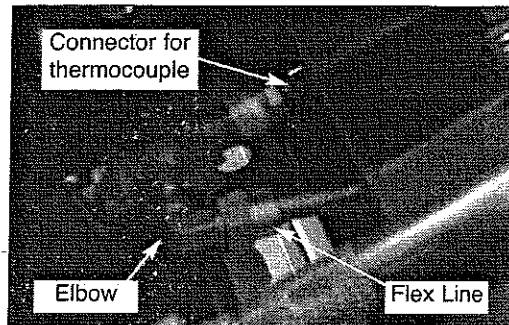

Fig 9
9. There is a connector for the thermocouple on the back IR control valve. You will find it after you remove the front heat shield during step 6 on page 2. (See Fig. 9)